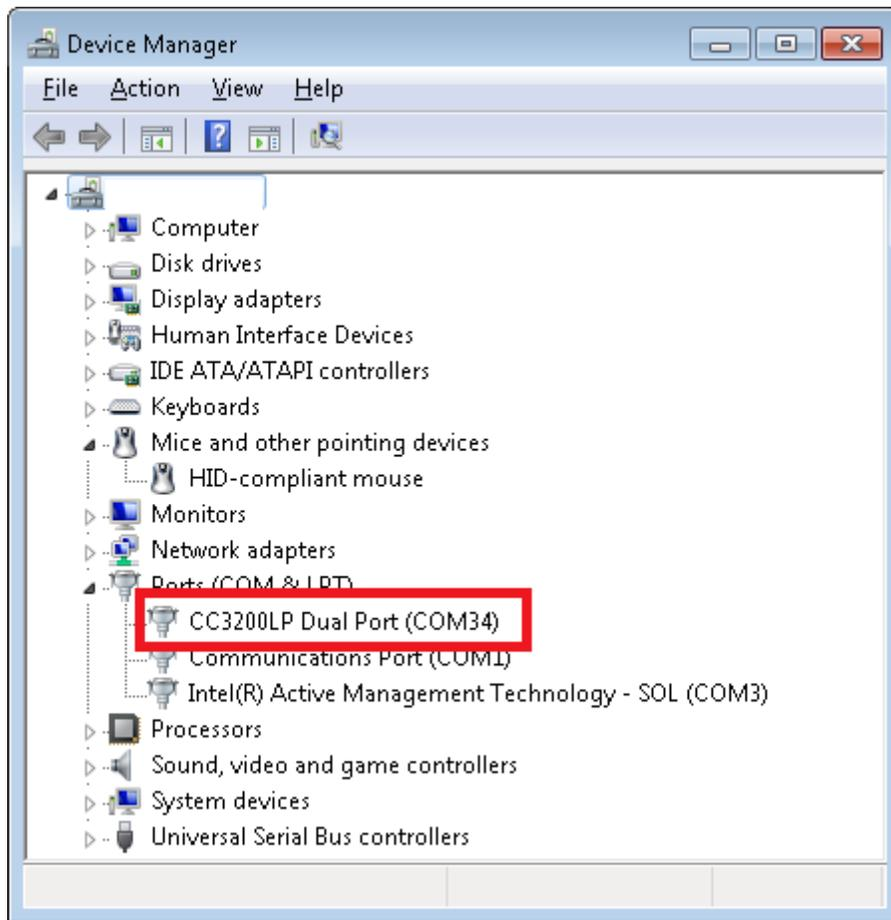

Figure 11. CC3200 COM Port in Device Manager
6. Connect J1 port of the CC3200-LAUNCHXL to the PC using a micro-USB cable. The device should be visible in the PC's Device Manager as shown in Figure 11, and a COM port shall be enumerated.